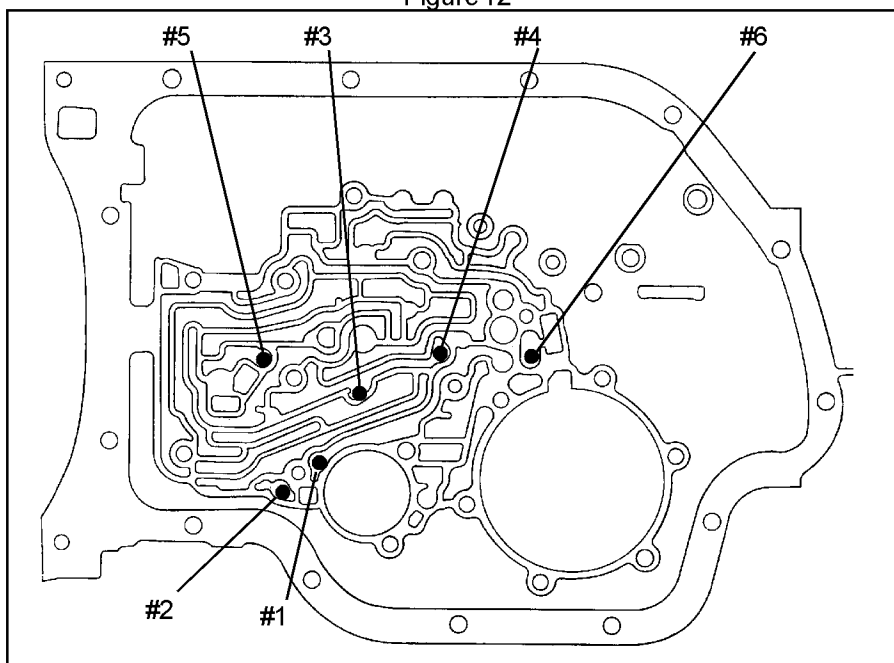

Figure 13
STEP 10. Check Ball Placement: Install check balls in the locations shown in **Figure 13** as follows: